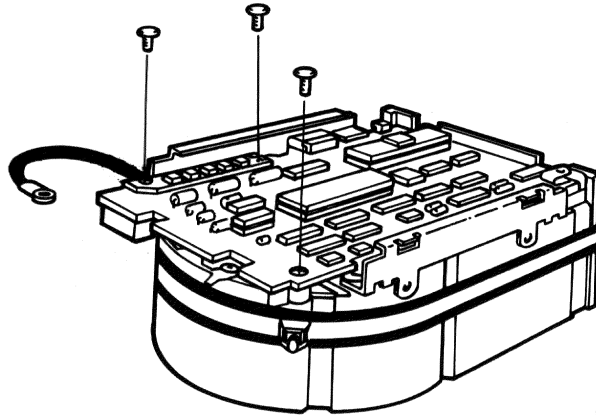

Figure 6-8 Heatsink Screws Removal (RD52)
5. Remove the three Phillips screws from the heatsink, grounding strip, and the corner opposite the heatsink. (Figure 6-8)